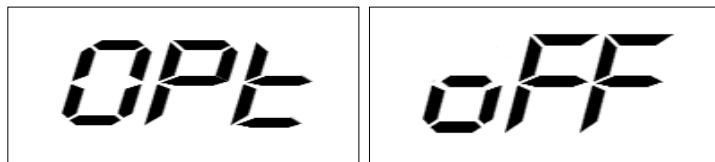
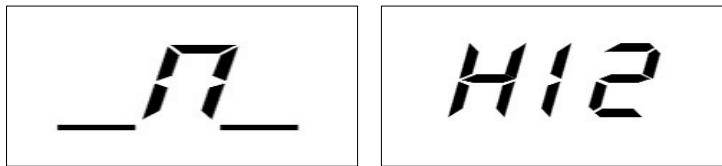

Fig. F5.2 Optimizing Procedure Unavailable
Fig. F5.3 Message "Adjust Tire Valve to 12 O'clock Position"
- 2) If the static unbalance amount of the tire is below 12g, the screen will display the message shown in Fig. F5.2 for one second and then automatically exit the optimization procedure. If the static unbalance amount of the tire is larger than or equal to 12g, the screen will display the message shown in Fig. F5.3.
- 7) The message shown in Fig. F5.3 will appear after the rotation stops. There are two options available.